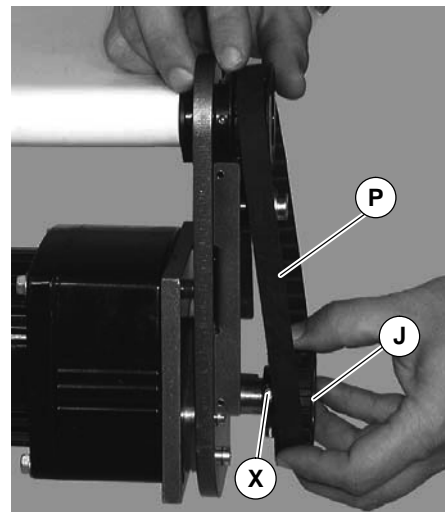

Figure 19
NOTE: If drive pulley (J of Figure 19) is replaced, wrap timing belt around drive pulley and complete step 3.
6. Loosen drive pulley set screws (X of Figure 19). Remove drive pulley (J) and timing belt (P).
NOTE: Drive pulley (J of Figure 19) is removed. Wrap timing belt around drive pulley and complete step 10.